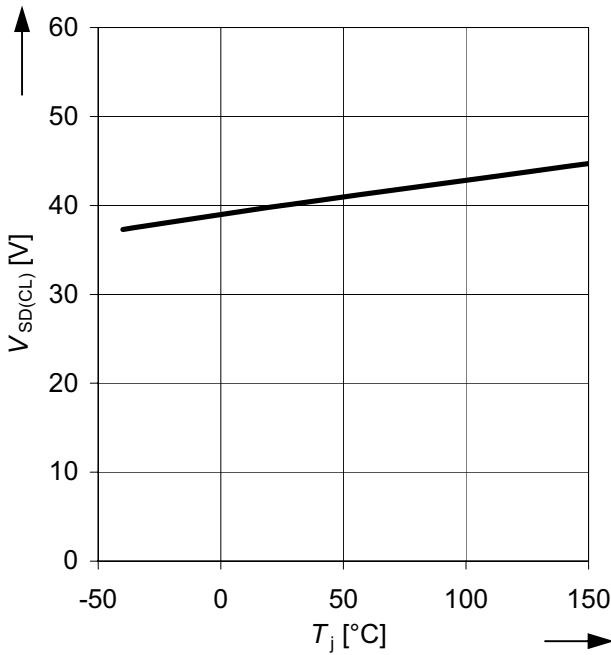

Figure 33 Source to Drain Smart Clamping voltage $V_{SD(CL)}$ as a function of the junction temperature T_j
4) See Figure 33 for typical temperature dependency.
| DS V1.2 | 2011-09-01 | Package name changed from PG-TO252-5-311 to PG-TO252-5-11 P_4.17 and P_4.18 Reference updated to ANSI/ESDA/JEDEC JS-001-2010 P_6.12 Footnote 2) : Replacing $V_{SD(inv)}$ by V_{SD} in formula. P_6.26 $V_{SD(CL)_25}$, P_6.27 $V_{SD(CL)_150}$ and Figure 33 "Output voltage drop limitation" renamed to "Source to Drain Smart Clamping voltage" |